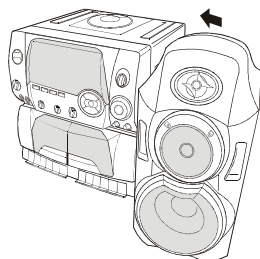

FIG.1
2. Align the rails of the speaker box with the main set as shown in FIG. 1.